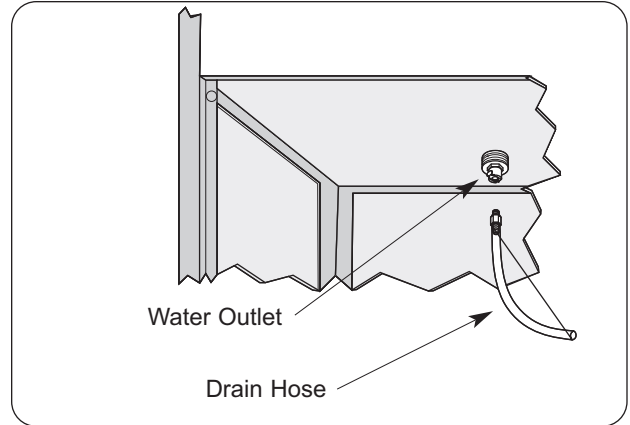

Figure 8. Draining Reservoir
1. Insert the drain hose fitting into the water outlet, located on the ceiling of the cabinet. (See Figure 8.) Once the fitting is installed, water will begin to drain from the hose.